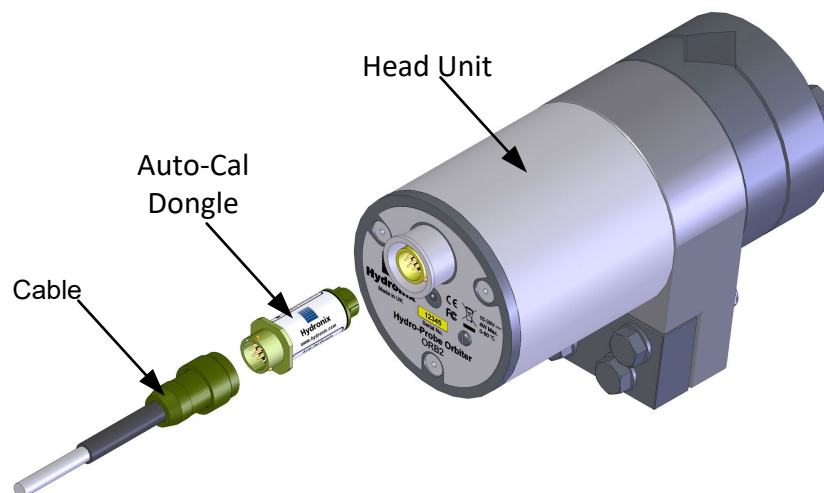

Figure 19: Connecting the Auto-Cal Dongle
Matching of the Head Unit and the Sensor Arm is achieved by connecting the Auto-Cal Dongle between the sensor cable and the Head Unit (Figure 19).
2. Connect the Auto-Cal Dongle to the Head Unit and sensor cable (Figure 19). The Auto-Cal Dongle should begin flashing (red) bright-dim-bright for 30 seconds.